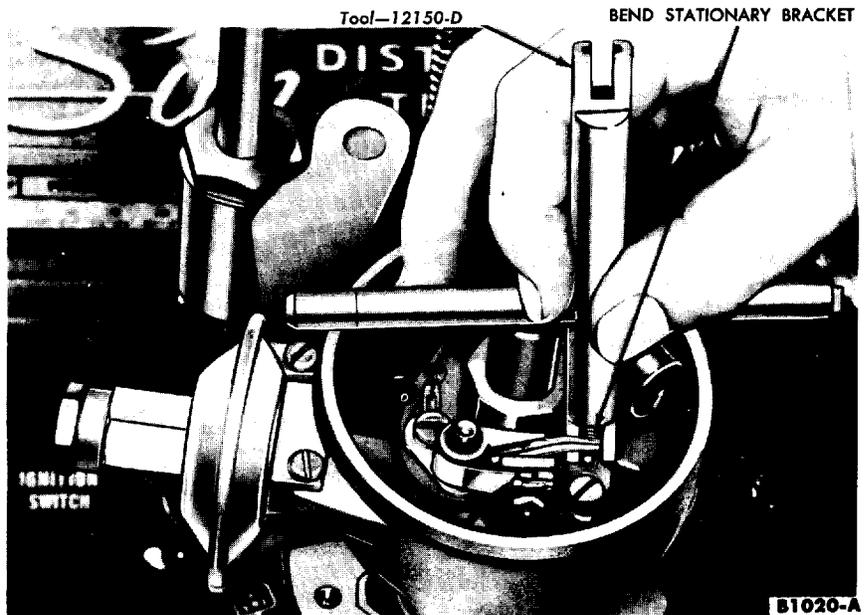

FIG. 13—Aligning Breaker Points
2. Align the breaker points to make full face contact by bending the stationary breaker point bracket (Fig. 13). Do not bend the breaker arm.